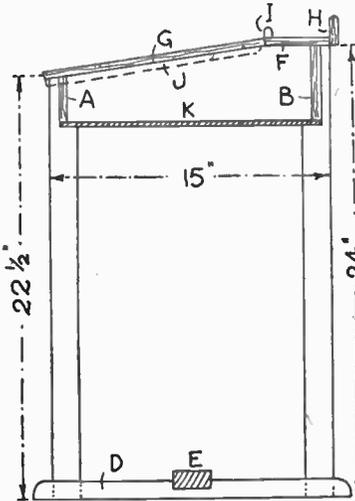

Fig. 1—Side view with dimensions
rails and with the corners cut away and trimmed round to clear the legs. Screw the floor to the rails as shown in Figs. 1 and 5. Now cut the bottom cross rail (E) to length, and at each end form a sinking  $\frac{1}{4}$  in. deep by 2 ins. wide to fit nicely into the floor rails. Glue the rails and put in screws from beneath. The ends of the floor rails, and those of the cross rail should be rounded off and made smooth.